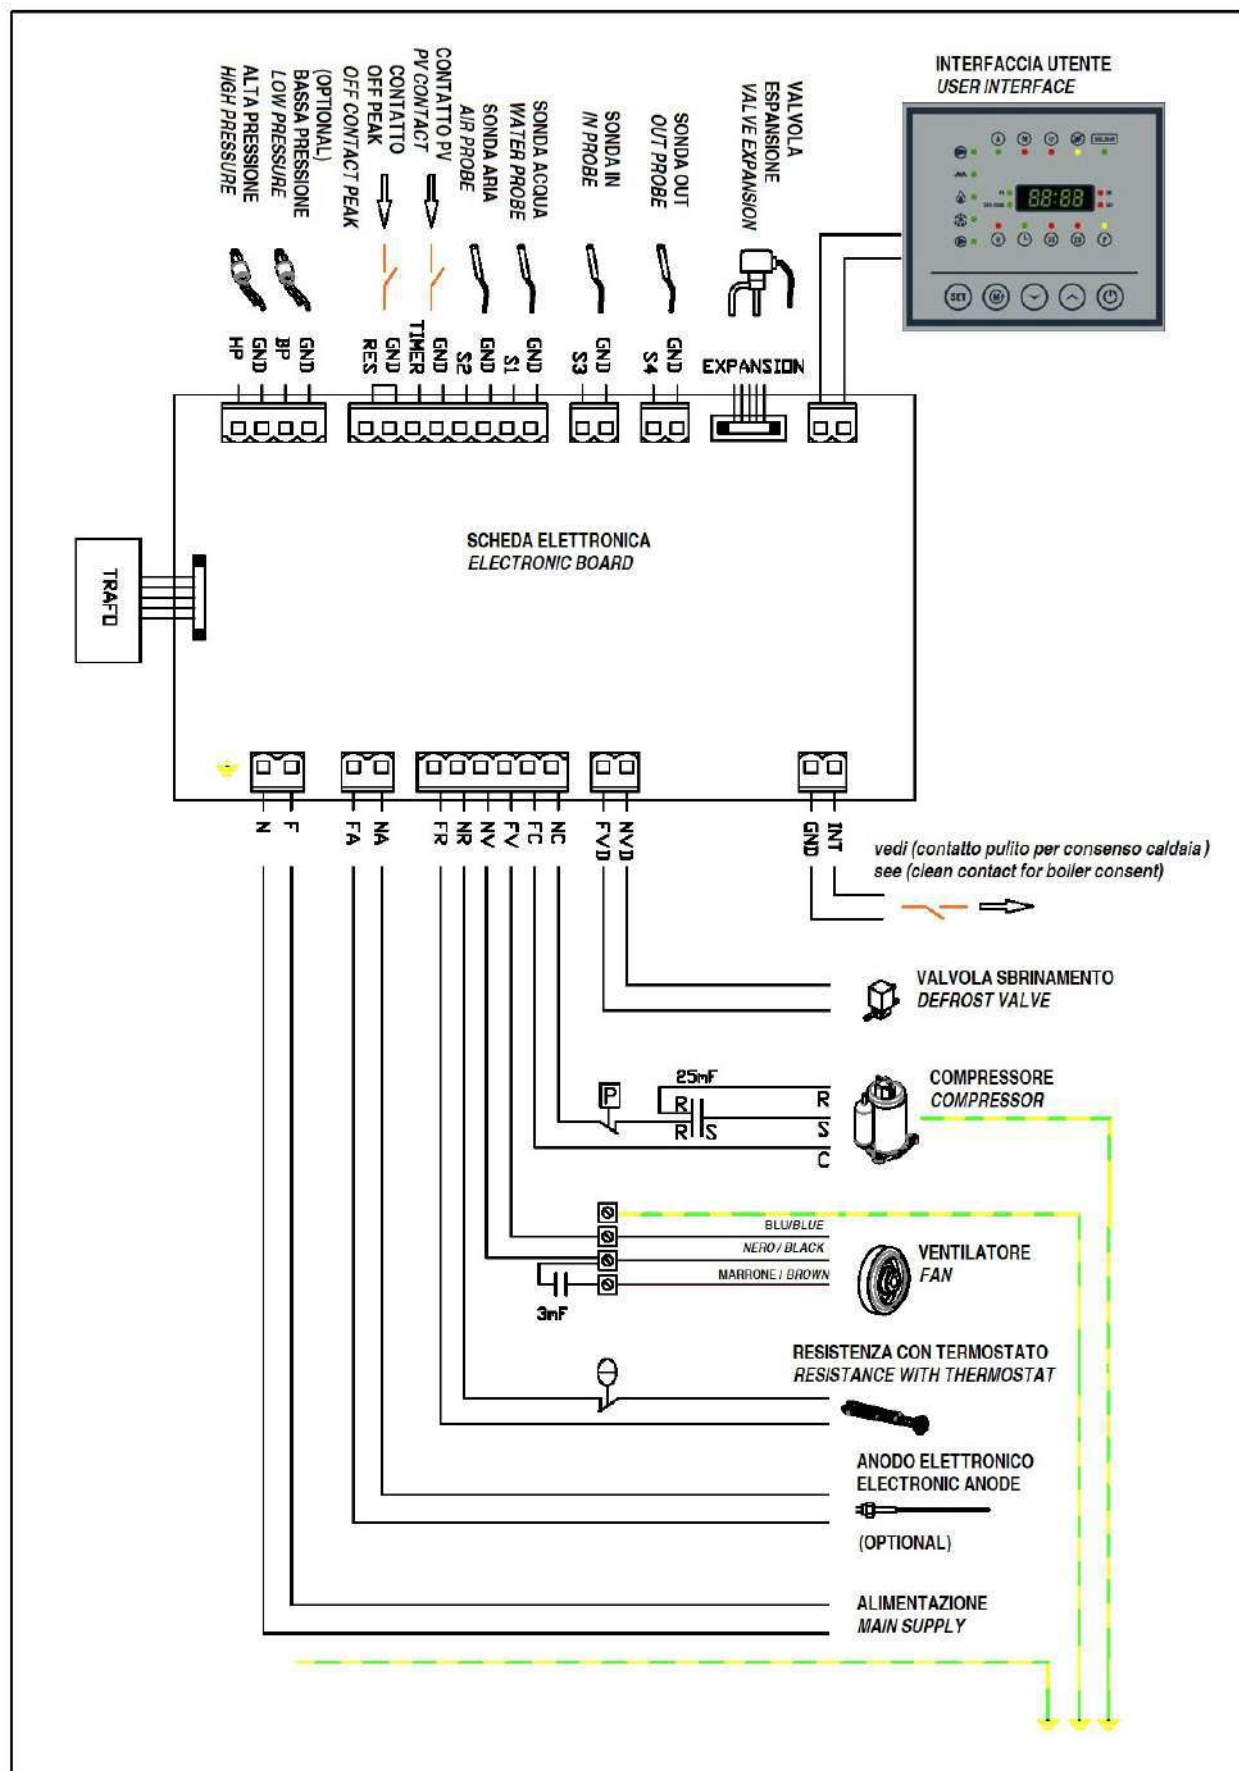

Fig. 10
SCHEMA ELETTRONICA (FIG. 10)
ELECTRONIC BOARD (FIG. 10)
**INGRESSI / USCITE SCHEDA ELETTRONICA (FIG.10)****INGRESSI DIGITALI**
ELECTRONIC CARD INPUTS / OUTPUTS (FIG.10)**DIGITAL INPUTS**